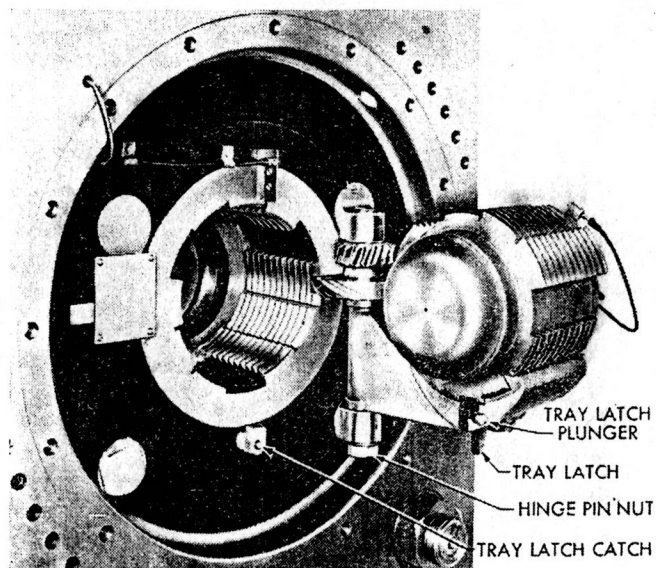

FIGURE 7.—Breechblock in full open position.
■ 20. OPENING BREECH.—a. No. 1 turns the breech operating crank handle counterclockwise until the breechblock clears the breech opening. The breechblock must be held in full open position (fig. 7); otherwise, the loading trough will strike the mushroom head.